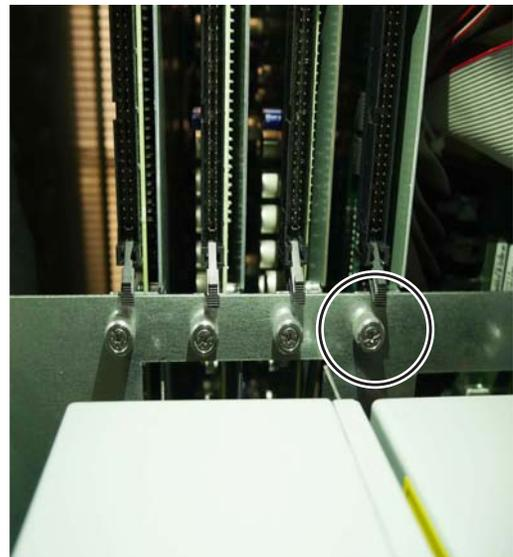

Figure 9. Securing the card to slot G of the Stage 64 chassis (shown at left) and to slot D of the Stage 32 (shown at right)
- 3 Loosen the captive thumbscrew securing the card to the chassis (see Figure 9 on page 9).